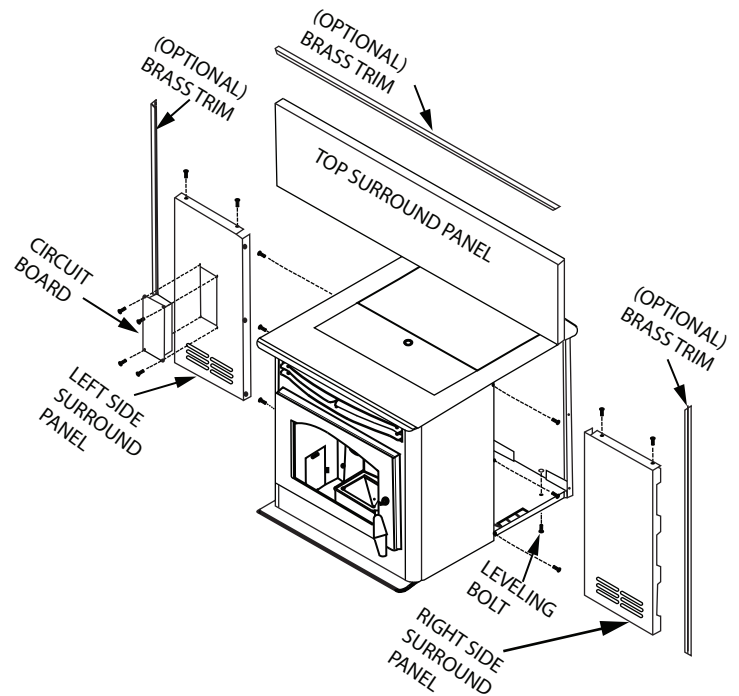

FIGURE 15
Follow the instructions packaged with the SP22 Flashing set part C-SP22-MED (refer to Figure 15).
4. Attach flashing (refer to Figure 15), route power cord out the side nearest a 120V receptacle. Slide in insert.
6. Attach flashing (refer to Figure 15), route power cord out the side nearest a 120V receptacle. Slide in insert.